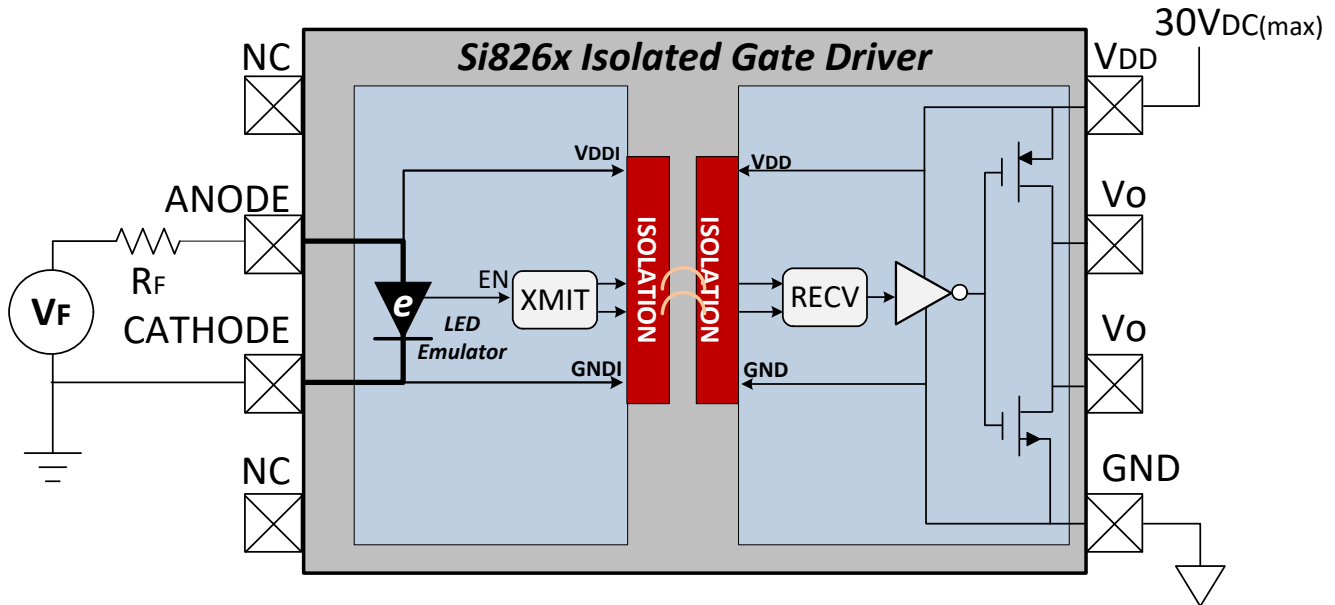

Figure 2. Si826x Isolated Gate Driver
The input-side diode emulator shown in Figure 2 mimics the behavior of an opto-driver LED to ensure compatibility with existing opto-driver input circuits. The diode emulator enables the high-frequency transmitter when input current I_F is at or above its threshold value, sending a high-frequency carrier across the isolation barrier to the receiver. This high-selectivity receiver forces the output driver high when sufficient in-band energy is detected. Input current below the I_F threshold disables the transmitter, causing the receiver to force the output driver low.
- Updated Figure 2 on page 2.